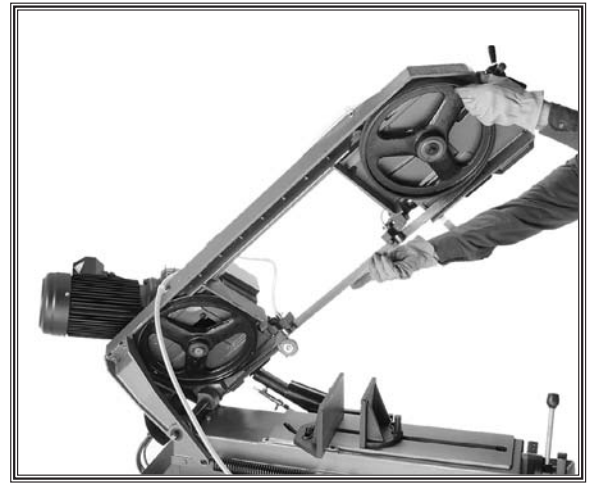

Figure 33. Typical blade installation.
5. Install the new blade through both blade guide bearings and around the bottom wheel (see the example in **Figure 33**).